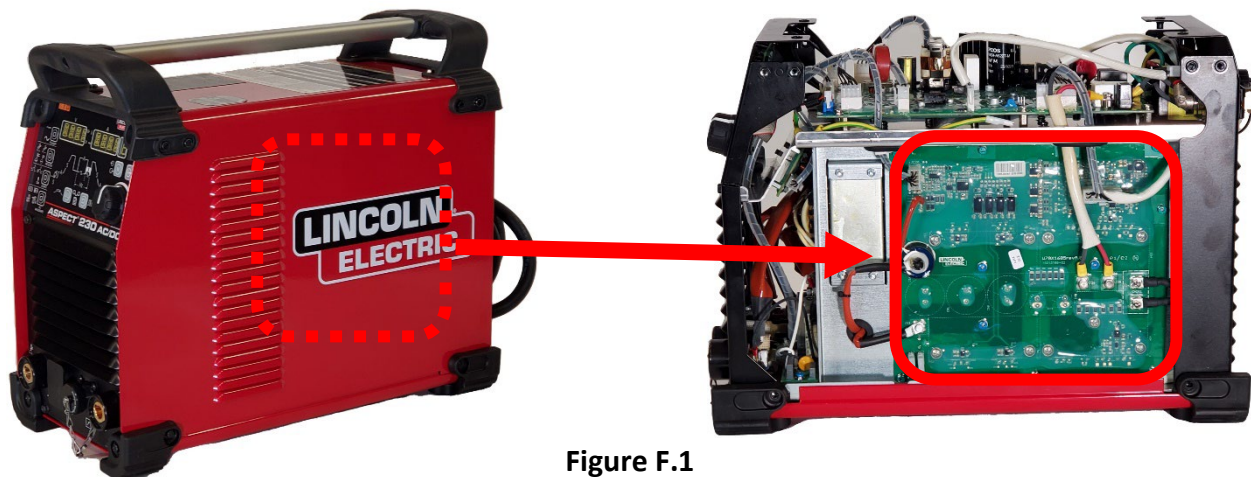

Figure F.1
1. For location of the Inverter Board refer to Figure F.1.